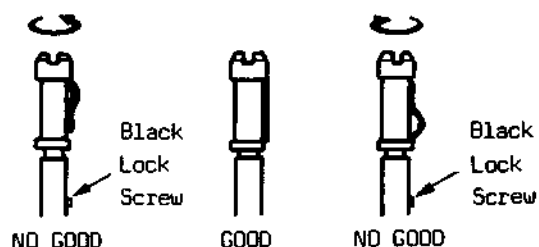

Fig. 2-16
- Play back a cassette tape and make sure that the edges of the tape are not curling at the bottom or top side of posts P1, P2, P3, P4 and pull out post P5 as shown in Fig. 2-16.